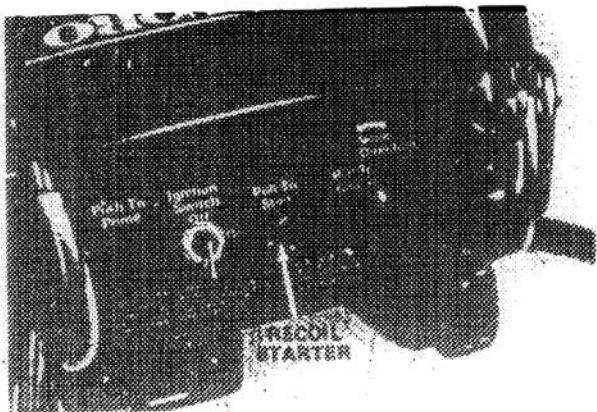

Figure 6
1. Primer (Fig. 6) — Push primer to pump a small amount of fuel from the carburetor into the cylinder, which allows the engine to be started easier in cold temperatures. DO NOT USE PRIMER WHEN ENGINE IS HOT.
2. Choke (Fig. 6) — Pull choke out to start engine. Because air intake into carburetor is restricted, engine receives a rich fuel mixture for easy starting.
3. Ignition Switch (Fig. 6) — Switch has ON and OFF position. Rotate key to ON to open the switch; then engine can be started by pulling recoil starter or pushing start button on S200 electric start. Rotate key to OFF to stop the engine.
6. Recoil Starter (Fig. 6) — Pull recoil starter to start the engine.
7. Vane Direction Control (Fig. 6 and 7) — Rotate vane control to direct discharge of snow to either side or straight forward.